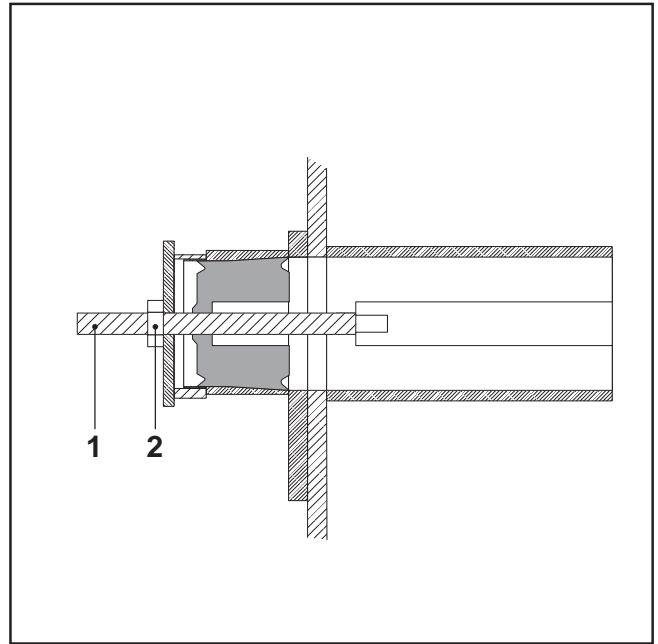

FIG.44
- Screw the M27 threaded rod (FIG.44-REF. 1) onto the piston head, screw on the nut (FIG.44-REF. 2) and pull out the piston.